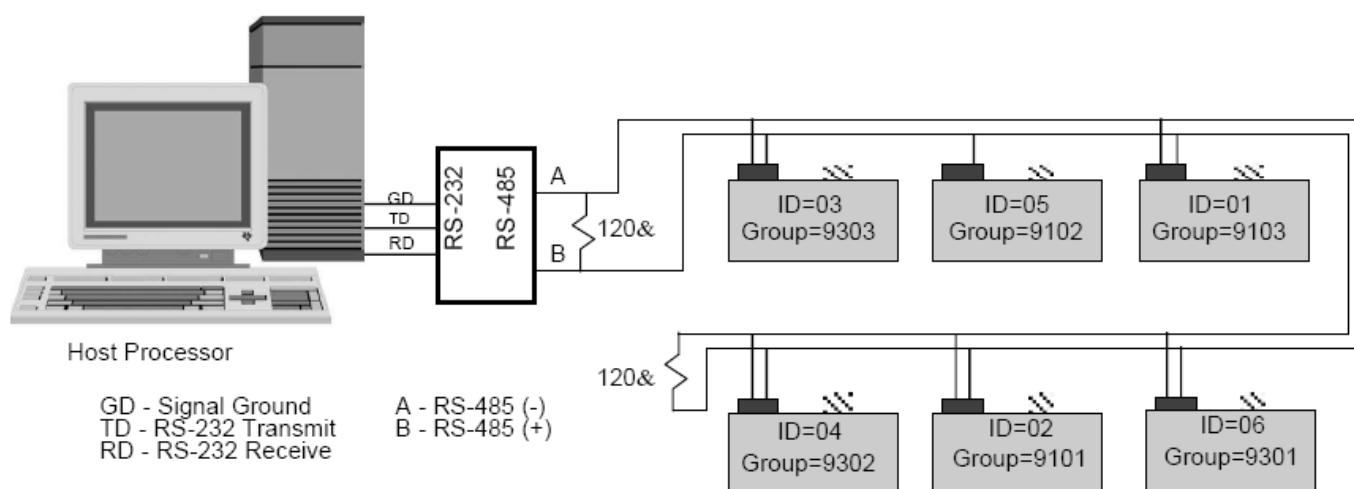

Figure 4.13—HPB RS-485 Multidrop Network
An HPB multidrop network connection of six units is shown in Figure 4.13. In this network, the device IDs are not in order from one end of the network to the other. Looking at all the units on the bus, the device IDs are sequential beginning with ID=01 and without duplication. This is an important setup condition if global commands (*99) are desired.
Assign Group Numbers: Once the device IDs are set the group IDs can be assigned. Each unit in the same group must have a sequential sub-address - beginning with 01. The sub-address tells each unit what order it should respond in a group addressed command. To set the group (91) and sub-address (01) for device ID=02, send the following commands: *02WE, *02ID=9101, *02WE, *02SP=ALL. Now when a command is sent to group 91, device ID=02 will be the first one to reply. In Figure 4.13, there are two address groups, 91 and 93; each have 3 HPB units assigned.
When an RS-485 multidrop network has all device IDs properly assigned (Figure 4.13), then global addressed commands can seek replies from all units without conflict. The **TO=N** and **TO=P** commands instruct the units how to reply in this situation. When **TO=N** command is set, each HPB will respond in sequence beginning with ID=01, one right after another. It is important that during this response sequence the host processor, or user, not transmit on the bus until the last unit has finished its message. A carriage return (<cr>) sent during the response sequence will cause the next unit ID to send its response even though the previous unit ID is still transmitting.